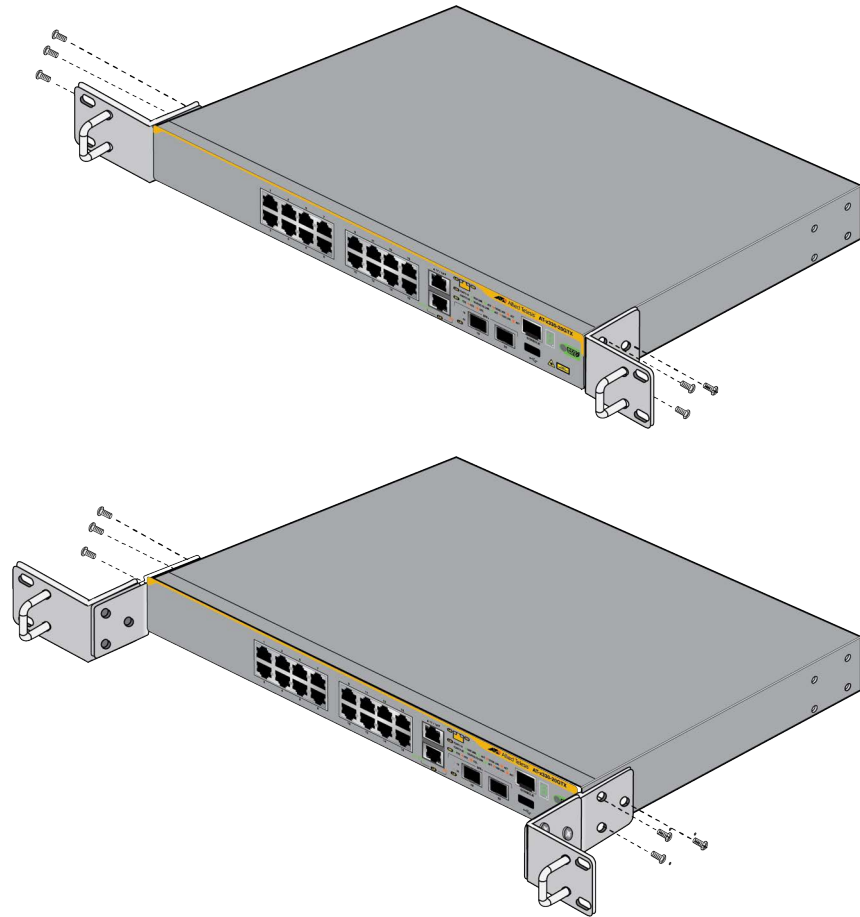

Figure 41. Attaching the RKMT-J13 Brackets to the x330-20GTX Switch
5. Attach the brackets to the sides of the switch with six of the 4x8mm screws included in the kit. Refer to Figure 41.